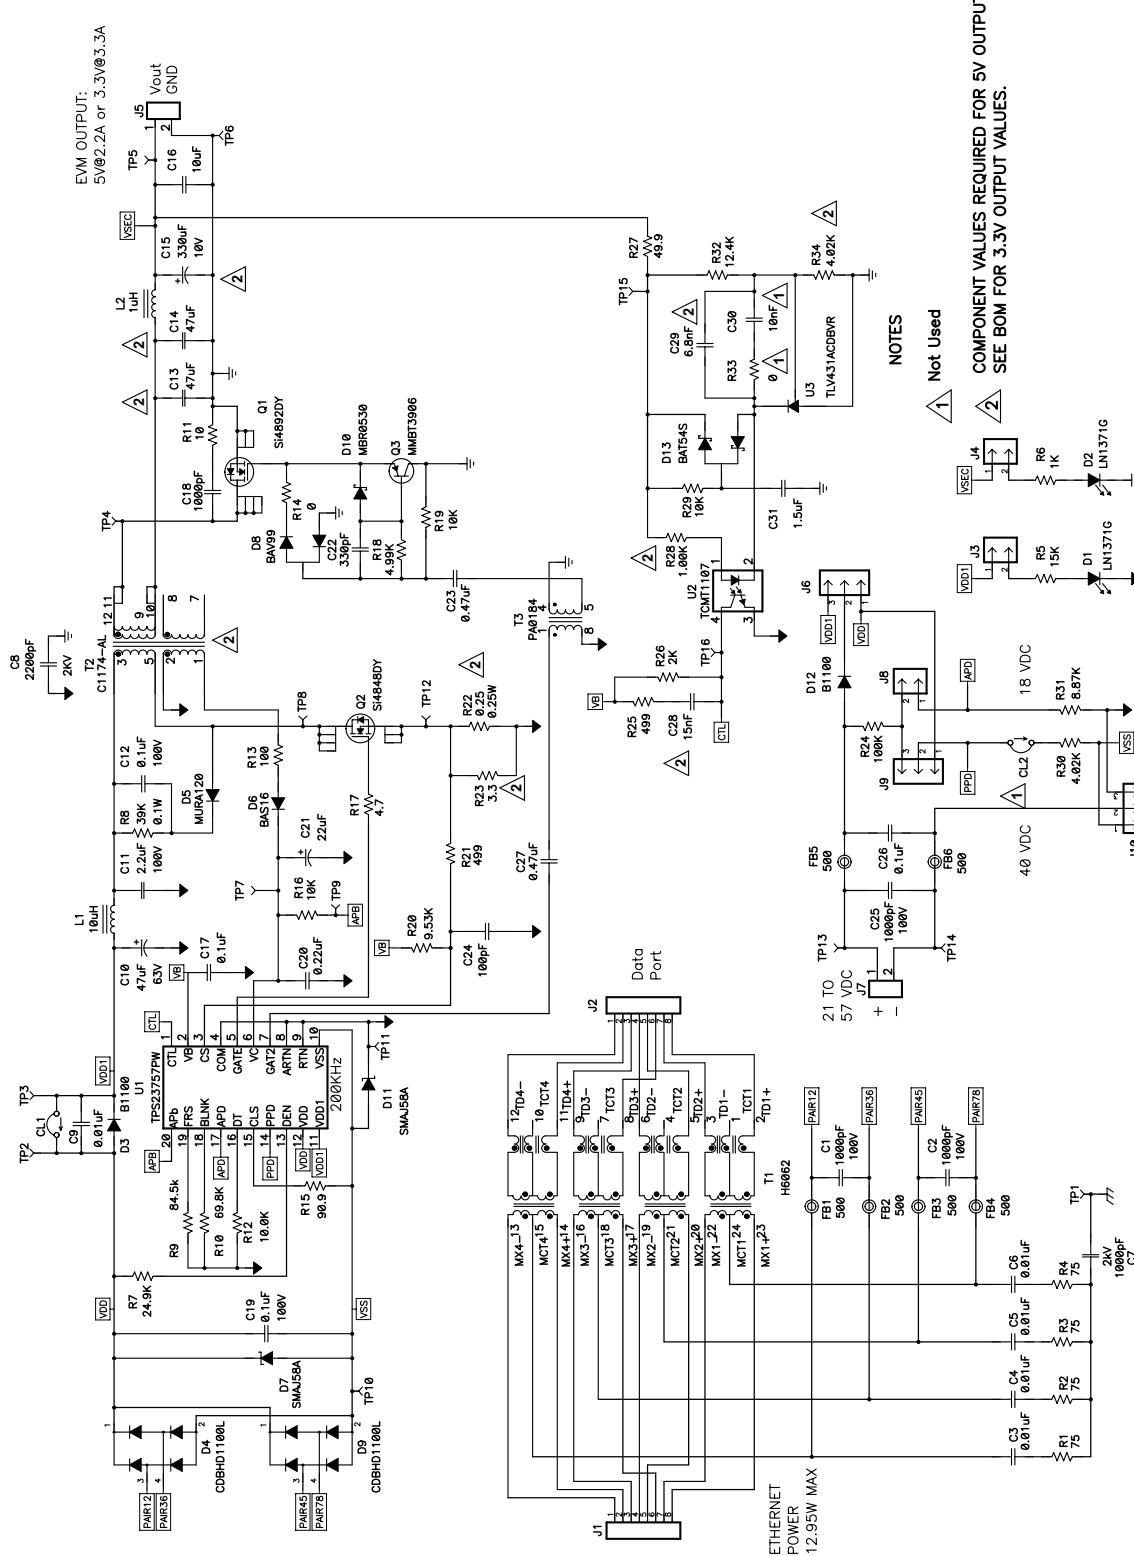

Figure 1. TPS23757EVM Schematic
**NOTE:** Only the 5-V version is orderable. The 5-V version can be converted to the 3.3-V version using Figure 1 and Table 5 as a reference.